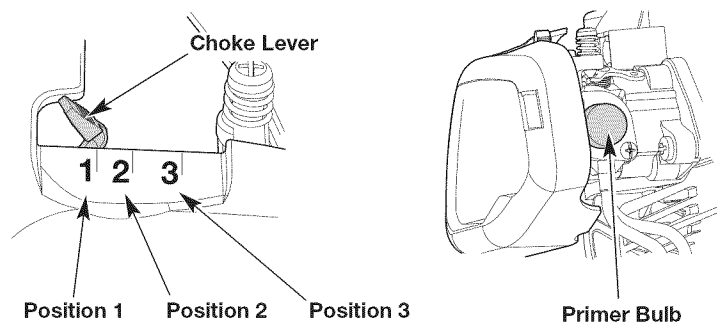

Fig. 4
3. Slowly press and release the primer bulb **10 times** (Fig. 4). If fuel cannot be seen in the primer bulb, press and release the primer bulb until fuel is visible.
4. Move the choke lever to **Position 1** (Fig. 4).
7. Continue to squeeze the throttle control. Move the choke lever to **Position 2** (Fig. 4).
10. Continue to squeeze the throttle control. Move the choke lever to **Position 3** (Fig. 4) and continue warming the engine for an additional 60 seconds. The unit may be used during this time.
IF... the engine hesitates, return the choke lever to **Position 2** (Fig. 4) and continue the warm-up.